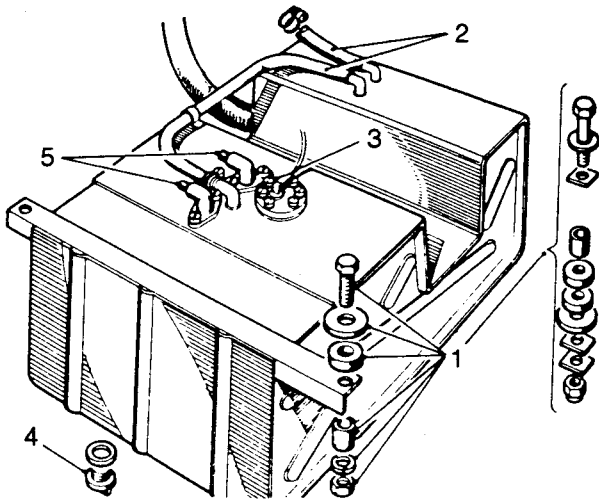

Fig C4.5
- (1) Disconnect the battery.
- (2) Drain the fuel into a clean container ((4) on Fig C4.5 is the drain plug).
- (3) Release the clip securing the filler tube hose to the tank.
- (4) Refer to Fig C4.5. Support the tank and remove the tank securing bolts (1).
- (5) Lower the tank only sufficiently to give access to the leads and pipes on top of the tank.
- (6) Disconnect the breather and air balance pipes (2).
- (7) Disconnect the wires at the gauge unit (3).
- (8) Disconnect the fuel supply pipes (5).
- (9) Lower the tank and remove it from under the vehicle.